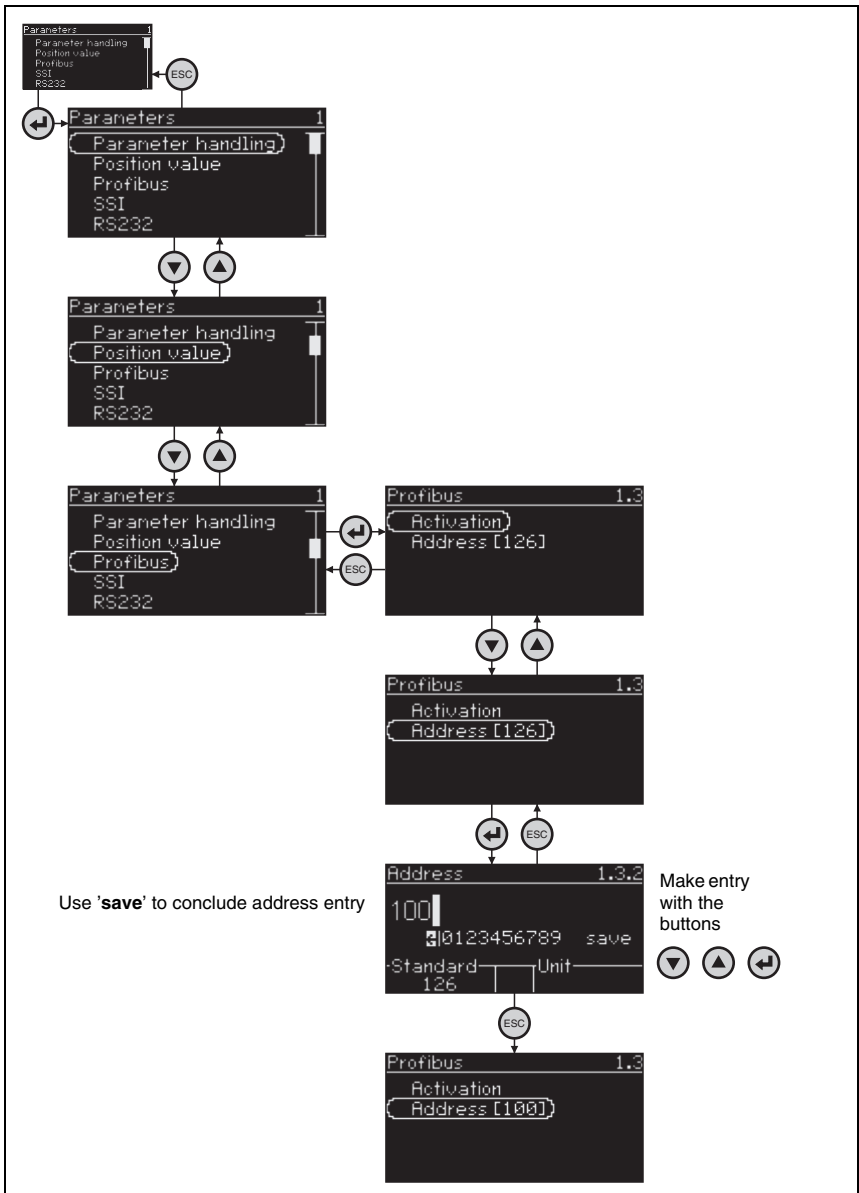

Figure 8.3: Setting the PROFIBUS address
- *Select the **PROFIBUS** submenu (figure 8.3).*
- *Select the **Address []** menu item (figure 8.3).*
- *Enter the PROFIBUS address of the laser measurement system; set to a value between 1 and 126 (default: 126, figure 8.3).*